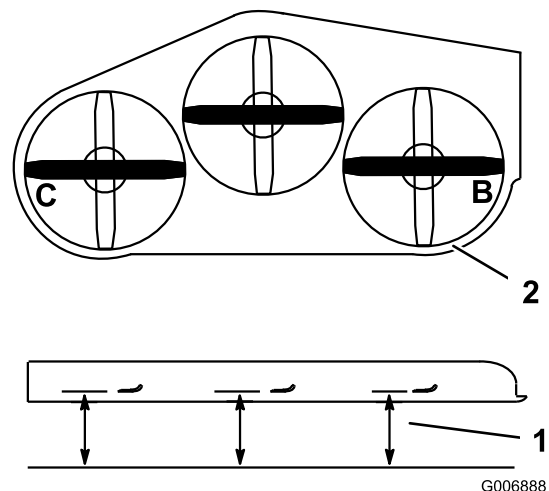

Figure 81
1. Position the **right** blade side-to-side (Figure 81).
- Measure the right blade at the **B** location, from a level surface to the cutting edge of the blade tip (Figure 81).
- Position the left blade side-to-side (Figure 81).
- Measure the left blade at the **C** location (Figure 81), from a level surface to the cutting edge of the blade tip.